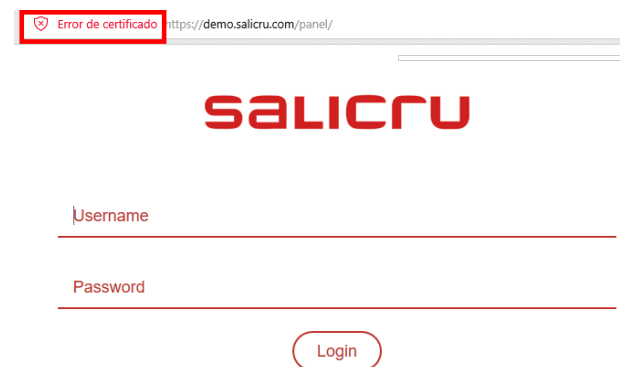

Fig. 10. Certificate error.
- The web page of the panel will load normally. In the address bar, it will appear a message with 'Certificate error'; you must click there (Fig. 10).